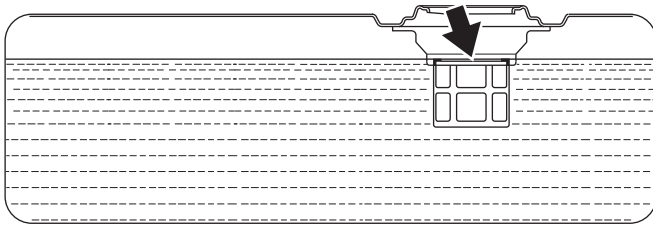

Figure 7-1 – Maximum Gasoline Fill Level
6. Slowly add gasoline into the fuel tank. Be very careful not to overfill the tank. The gasoline level should NOT be higher than the bottom of the filler neck (see Figure 7-1). Overfilling the fuel tank may damage the carbon canister, if equipped.